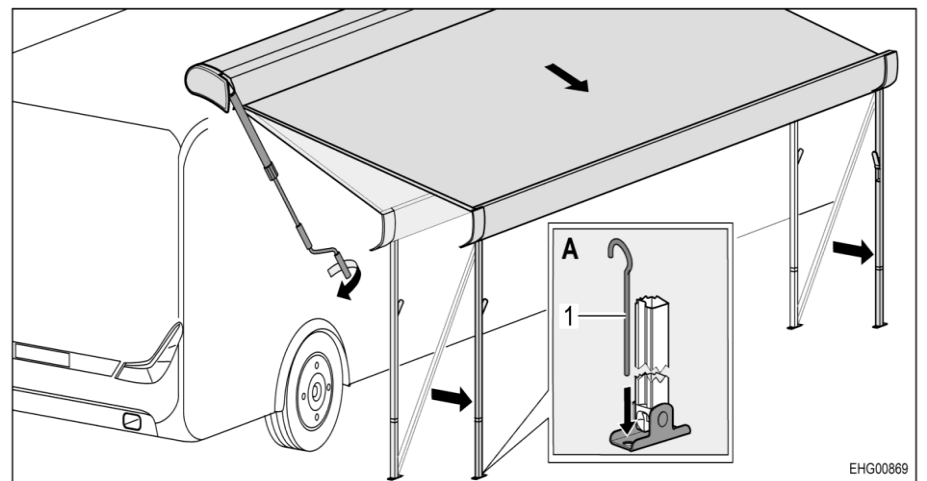

Fig. 47 Bringing awning into end position
- Fix the support legs to the floor with tent pegs (Fig. 47,1) (Fig. 47,A).